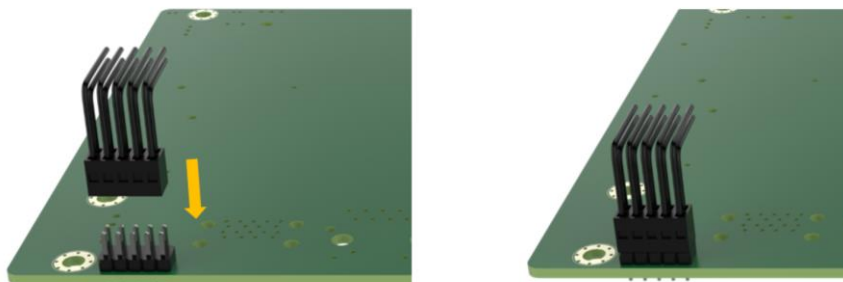

Figure 3-11: RS-232 Cable Installation
Step 2: Connect the serial cable to the serial connector on the mainboard. (Figure 3-11)